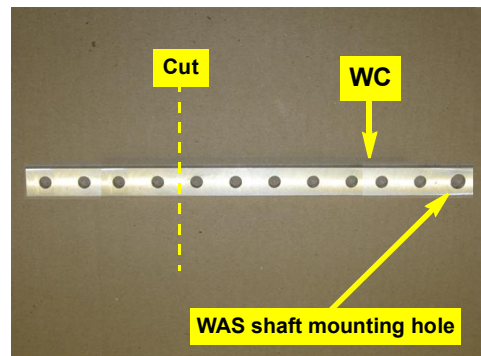

Figure 1b: WAS arm preparation
- Cut four holes off WAS arm **WC** at the opposite end from the WAS shaft mounting hole (Figure 1b).